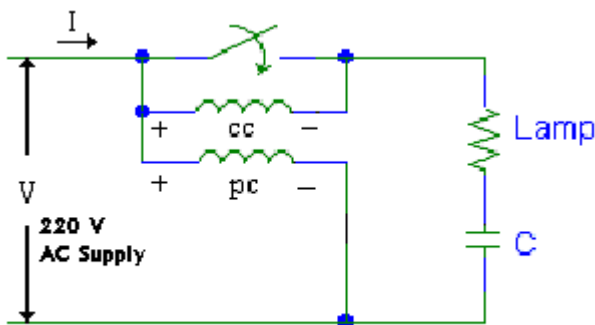

Figure 1:
1. Connect the circuit in Figure 1 without the wattmeter. Measure V and I .